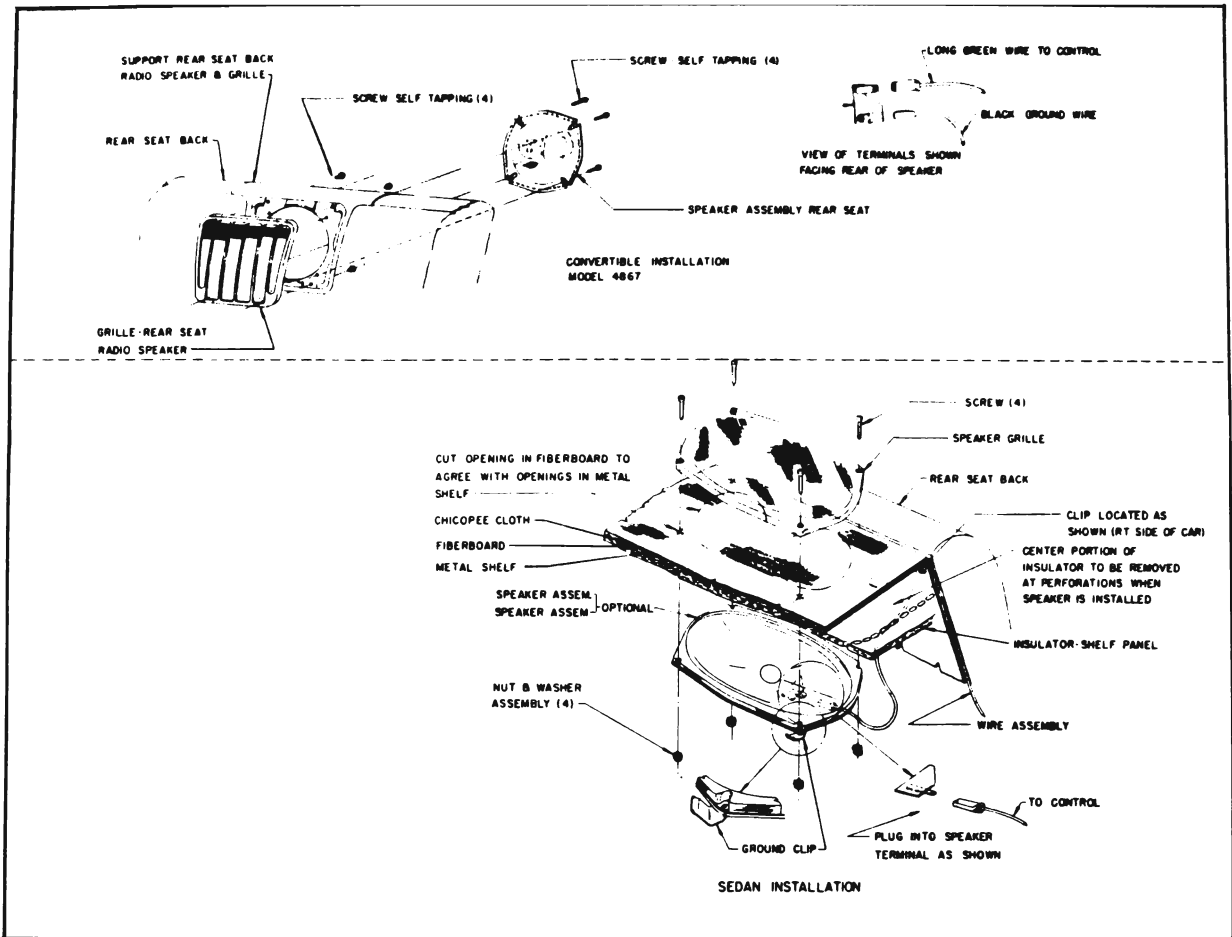

Figure 11-12—Installation of Rear Seat Speaker
14. Insert wire under seat cushion, behind the seat back, and over the top edge of the cardboard in the trunk compartment. Make certain that the wire is positioned so it will not be pinched when the cushions are replaced. It may be necessary in some cases to pry a small opening at the floor level for wire clearance. For assembling the rear seat unit, see fig. 11-12.